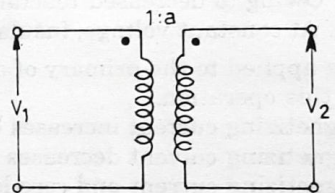

Fig. C.46.
57. In an ideal transformer shown in Fig. C.46